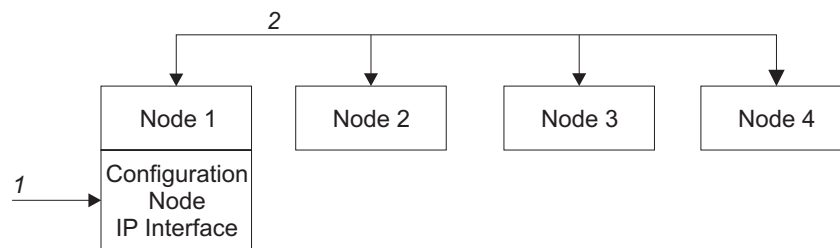

Figure 4. Configuration node
Figure 4 shows an example clustered system that contains four nodes. Node 1 has been designated the configuration node. User requests (1) are handled by node 1.